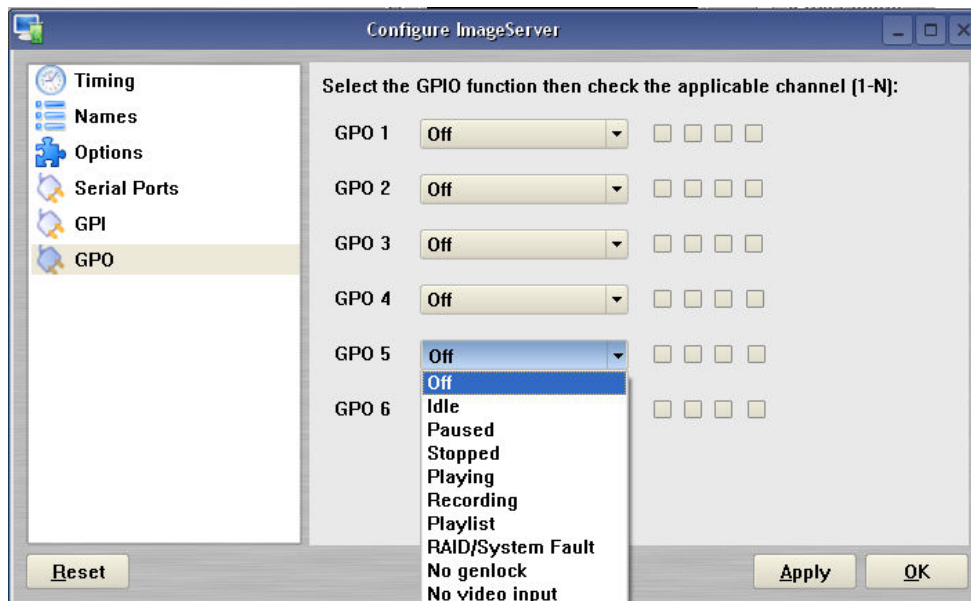

Figure 28 - GPO Configuration Screen
- A. Select **EDIT->CONFIGURE->GPO**. The screen of Figure 28 is displayed. GPO 1 through 6 are the 6 triggerable outputs. The checkboxes to the right of each selection represent channel 1, 2, 3 and 4. GPO 5 is shown with the trigger option pulldown expanded.